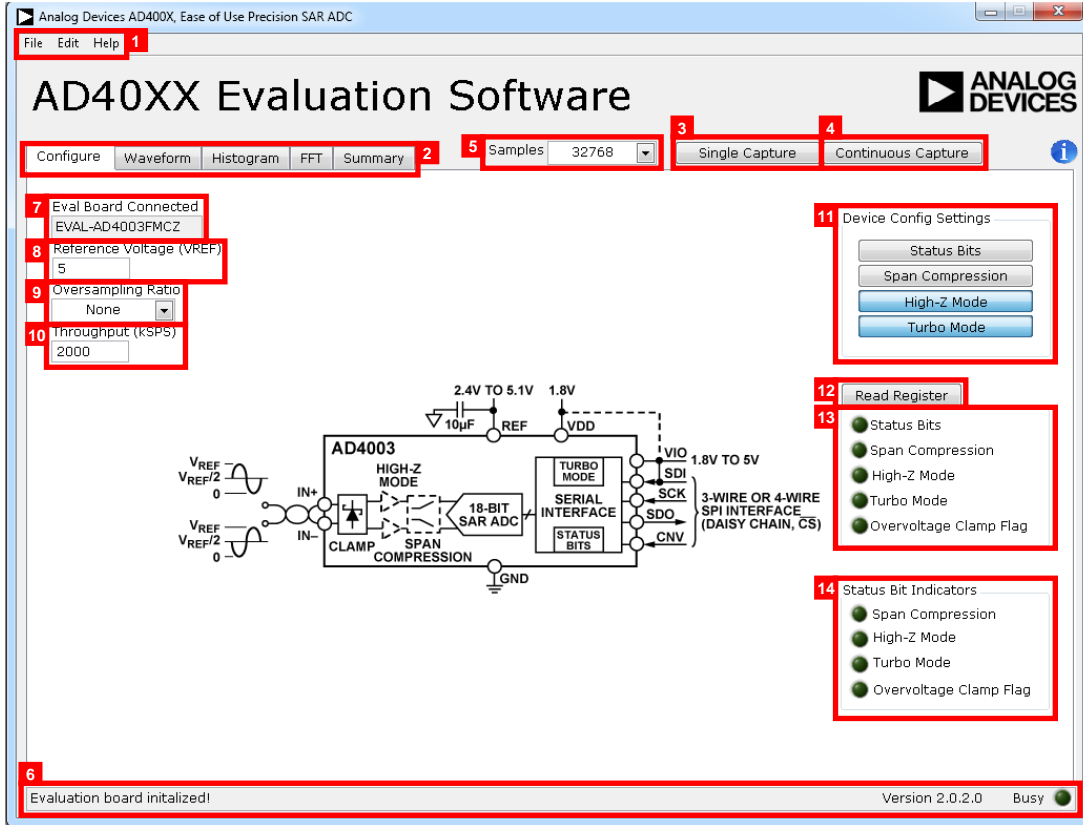
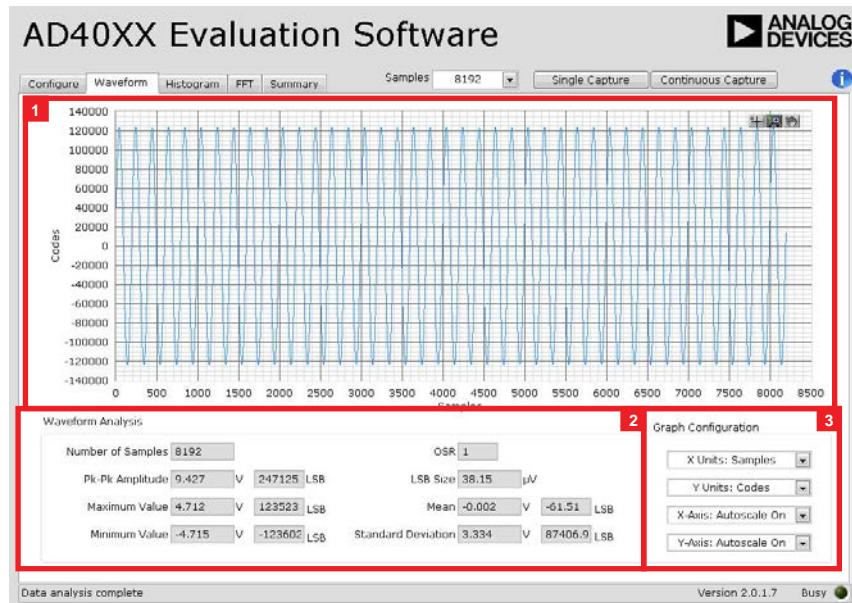

Figure 17. AD40XX Evaluation Software Front Panel (Configure Tab View)
Figure 19. Waveform Tab View
After the AD40XX Evaluation Software Installer initializes, the software front panel appears, and the software automatically connects to any `EVAL-AD400x-FMCZ` evaluation board connected to the PC. The detected evaluation board is displayed in the **Eval Board Connected** indicator on the front panel (see Label 7 in Figure 17).
The AD40XX Evaluation Software Installer front panel is shown in Figure 17. The following sections describe the various software controls accessible on the front panel.
The **File** menu (Label 1 in Figure 17) provides the following options:
The **Edit** (Label 1 in Figure 17) menu provides the following option:
The **Help** menu (Label 1 in Figure 17) provides the following options:
The following five tabs are located at the top of the front panel (Label 2 in Figure 17): **Configure**, **Waveform**, **Histogram**, **FFT**, and **Summary**. These tabs select various front panel views.
Click **Single Capture** (Label 3 in Figure 17) to perform a single set of conversions. The number of conversions performed is set with the **Samples** dropdown list, which is located to the left of the **Single Capture** control.
Click **Continuous Capture** (Label 4 in Figure 17) to perform repeated sets of conversions. The number of conversions performed per set is set with the **Samples** dropdown list.
The **Samples** dropdown list (Label 5 in Figure 17) sets the number of conversions that are performed when **Single Capture** is clicked. The button also sets the number of conversions per set when **Continuous Capture** is clicked.
The status bar (Label 6 in Figure 17) displays information about the current process being completed by the **AD40XX Evaluation Software Installer**. The **Status Bar** includes a **Busy** indicator, which displays if the software is busy performing a task such as performing conversions, analyzing results, and so on.
Figure 17 shows the **Configure** tab view. The **Configure** tab provides controls for configuring the connected **AD4000** family device and software settings. The **Configure** tab view contains the following controls and indicators:
- **Eval Board Connected** (Label 7 in Figure 17): indicates that the **EVAL-AD400x-FMCZ** board is connected to the software.
- **Reference Voltage (VREF)** (Label 8 in Figure 17): sets the VREF used in data analysis such as when calculating **LSB Size** (see Label 2 in Figure 19), or measured voltage in the waveform graph (see the **Waveform Tab View** section. This control must be set to match the VREF used on the connected **AD4000** family evaluation board.
- **Oversampling Ratio** (Label 9 in Figure 17): sets the oversampling ratio applied to the captured data. After this control is set to any value other than **None**, the software sums up the consecutive conversion results together to increase effective resolution. The number of conversions summed together is set by the **Oversampling Ratio** control.
- **Throughput (kSPS)** (Label 10 in Figure 17): sets the throughput of the connected **AD4000** family device. The maximum value of this control is automatically set to reflect the maximum achievable throughput of the connected device, given the state of the **Status Bits** and **Turbo Mode** controls. See the relevant **AD4000** family device data sheet for more information on maximum achievable throughput.
- **Device Config Settings** (Label 11 in Figure 17): configures the connected **AD4000** family device user configuration register settings. See the relevant **AD4000** family device data sheet for a detailed description of the user configuration register and the device features.
- **Read Register** (Label 12 in Figure 17): reads the **AD4000** family device user register. When **Read Register** is clicked, the contents of the connected **AD4000** family device register are read to update the **Device Config Settings** items accordingly.
- **Device configuration settings display** (Label 13 in Figure 17): displays the status of the user register when **Read Register** is clicked. Each of the following indicators displays the state of the corresponding settings:
- **Status Bits Indicators** (Label 14 in Figure 17): displays the configuration settings of the device as indicated by the status bits. The status bits are enabled with the **Status Bits** control in the **Device Config Settings** pane (Label 11 in Figure 17). The **Status Bits Indicators** are only updated after conversions are performed with the **Single Capture** or **Continuous Capture** controls when the status bits are enabled on the connected **AD4000** family device. The
Figure 19 shows the **Waveform** tab view. The **Waveform** tab view shows the time domain representation of the conversion results from the connected **AD4000** family device, as well as several analysis items. The **Waveform** tab view contains the following controls and indicators:
- **Waveform graph** (Label 1 in Figure 19): displays the time domain plot of the most recently captured or loaded conversion results. The scale and range of the waveform graph can be set in the **Waveform Analysis** box by double clicking on the **Minimum Value** and **Maximum Value** fields and entering the desired values. The waveform graph also includes viewing tools that are described in Table 5.
- **Waveform Analysis** (Label 2 in Figure 19): shows the following analysis items for the currently displayed data.
- **Graph Configuration** pane (Label 3 in Figure 19): sets the following waveform graph axis properties.
- **Bin Width**: displays the size of the frequency bins in the FFT graph x-axis. The bin width is a function of both the **Throughput (kSPS)** control (Label 10 in Figure 17) and the number of samples in the captured data.